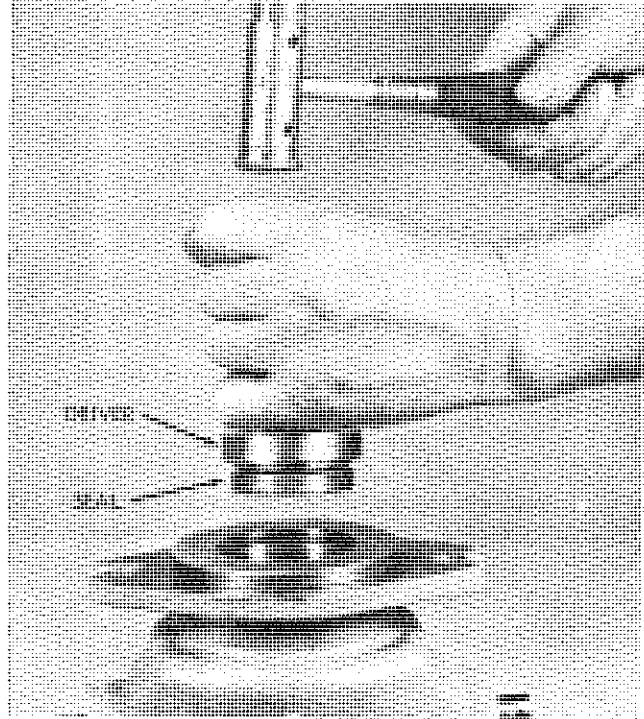

Figure VI-38. Removal or Replacement of Pump or Motor Shaft Seal
- Position shaft seal on the driver (Figure VI-38).